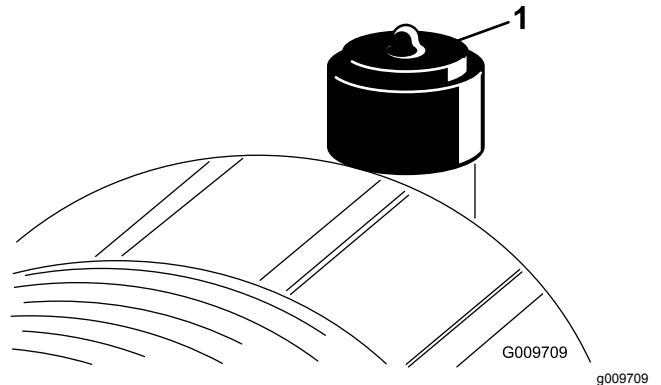

Figure 75
Service the air-cleaner filter only when the service indicator requires it (Figure 75). Changing the air filter before it is necessary only increases the chance of dirt entering the engine when you remove the filter.
2. Reset the indicator (Figure 75) if it shows red.